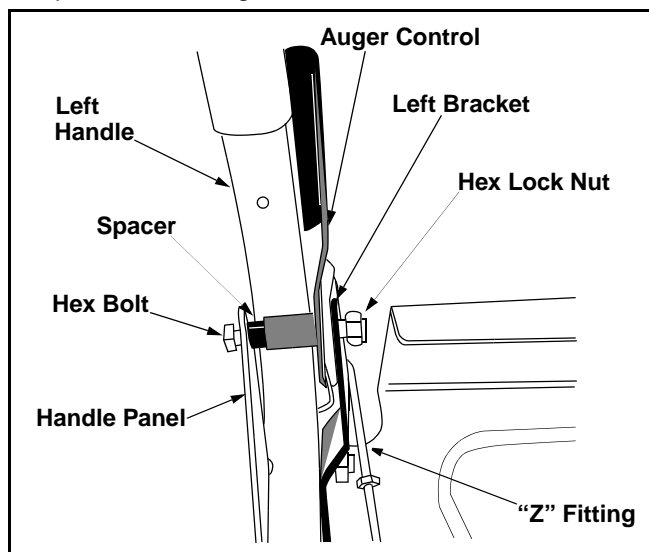

Figure 7
- Secure with hex bolt, spacer, and hex lock nut. Do not overtighten this bolt as it will prevent the control from automatically returning to their upright position. See Figure 7.